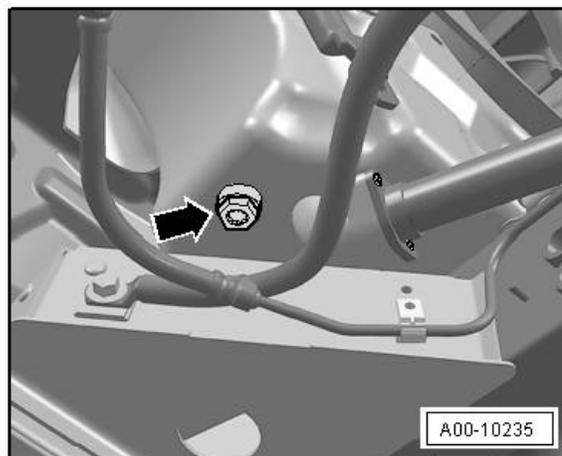

Figure 3. The oil drain plug on the oil reservoir.
- e. Open the oil drain plug on the oil reservoir (Figure 3) with a 12 mm multi-point socket comparable to VAS 5301/19. Drain for **5** minutes. Reinstall drain plug with new gasket and torque to specification.